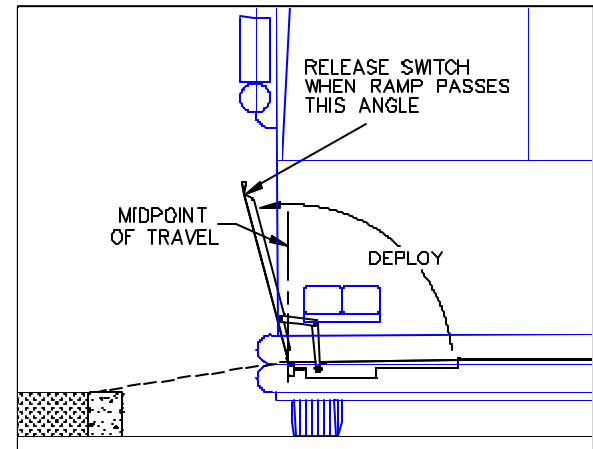

FIGURE 3-2: RAMP MIDPOINT DURING DEPLOY
- 2) Refer to **Figure 3-2**. Move ramp control switch to DEPLOY position. Hold switch in DEPLOY until ramp has **passed** its travel midpoint (vertical), then release switch. After ramp passes the midpoint, it will continue to the ground without assistance.